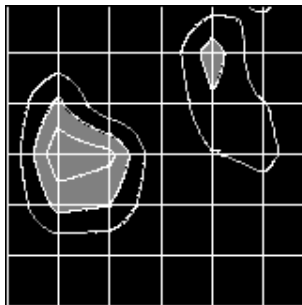

Fig. 71
14. At the end of each line scanning, starting with the second, the scanned image visualization submodule may be entered, pressing the Enter key (view image function). The interpolated image of the scanned lines will be displayed (Fig. 71).